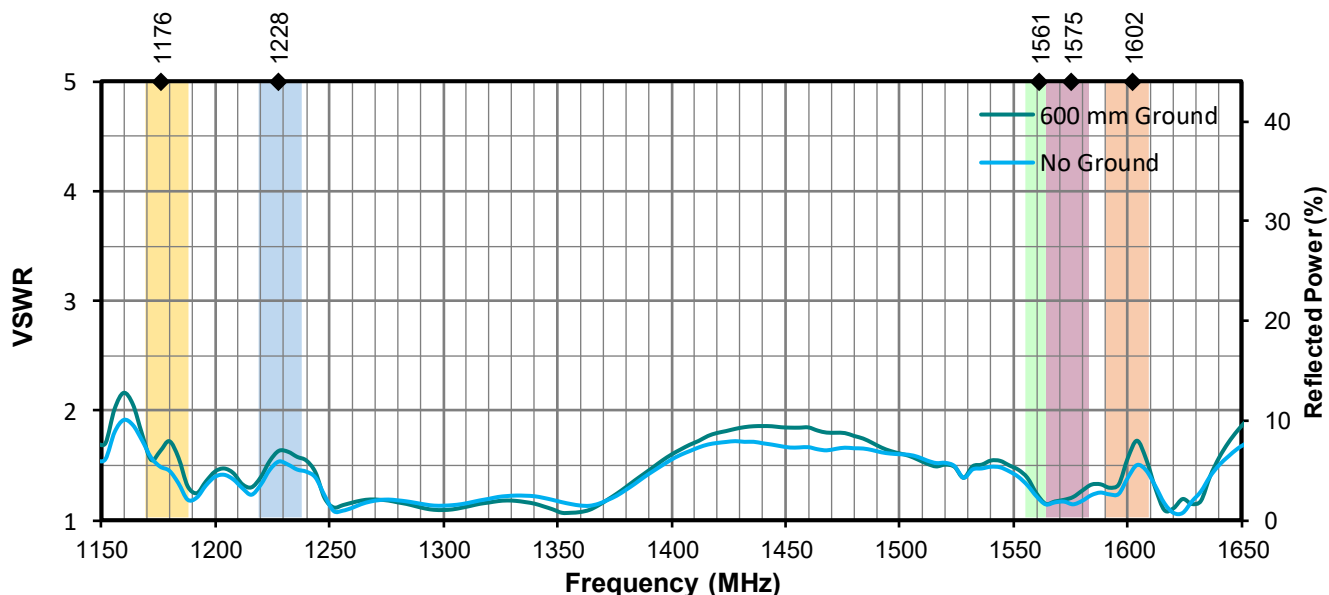

Figure 19. Antenna VSWR, GNSS
**Figure 19** provides the voltage standing wave ratio (VSWR) across the antenna bandwidth. VSWR is a function of the reflection coefficient, which describes the power reflected from the antenna back to the radio. A lower VSWR value indicates better antenna performance at a given frequency. Reflected power is also shown on the right-side vertical axis as a gauge of the percentage of transmitter power reflected back from the antenna.